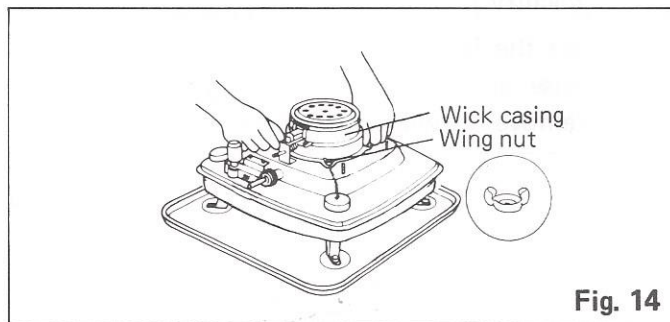

Fig. 14
5. Loosen the four wing nuts and lift out the wick casing. (Fig. 14)